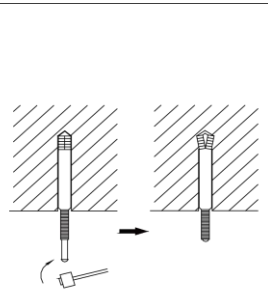

Fig4.5
- (3). Insert the anchor bolts into the drilled holes, and drive the pins completely into the anchor bolts with a hammer. (Fig. 4.5)